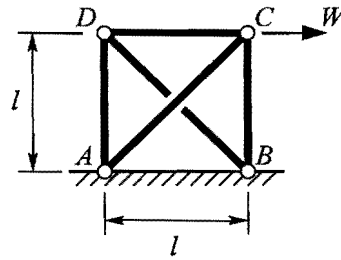

Figure 2
2. Figure 2 shows the final structure described in question 1(d) subjected to the same load, W . Declaring the tension in bar CD to be redundant, as pursued in question 1, write down one set of tensions, $\mathbf{t}_0$, in equilibrium with the applied load. Then, for $T_{CD} = 1$ and no applied loads, determine a state of self-stress, $\mathbf{s}$, in the structure. Using the notation given in lectures, combine the set of tensions just found and the self-stress to yield the general set of bar tensions, $\mathbf{t} = \mathbf{t}_0 + x\mathbf{s}$, where x is a constant dependent on compatibility conditions, and to be found later.
3. Careful measurement shows that bar CD in Figure 2 was initially too short by $l/1000$. When no load is applied to the structure, find the tensions in all of the bars due to this mis-fit.